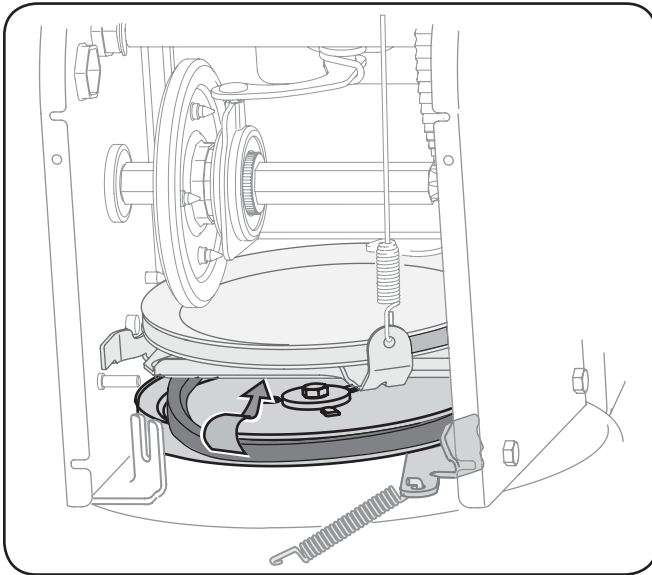

Figure 7-5
- Remove the belt from around the auger pulley, and slip the belt between the support bracket and the auger pulley. See Fig. 7-5.